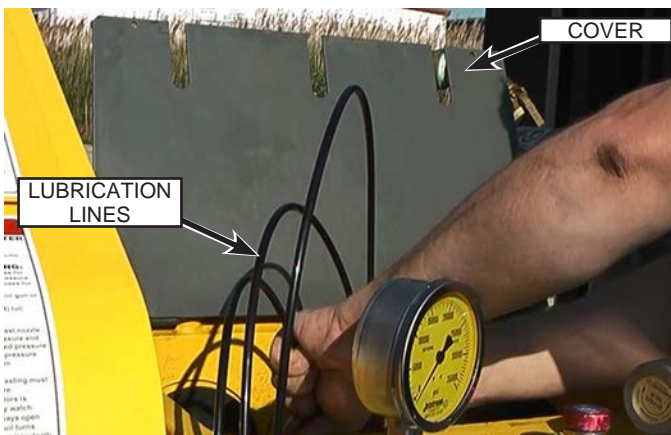

Fig. 87: Connecting Water Lubrication Lines
5. Connect the water lubrication lines (Fig. 87) to the stuffing boxes and close the rod box cover.